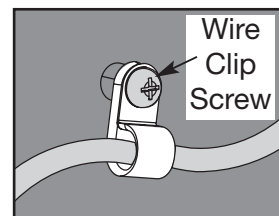

Figure 27
- B. Using a Phillips head screwdriver, loosen the screw on the wire clip and remove the display cable from it. See Figure 27.
B. Using a Phillips head screwdriver, place the display cable in the wire clip and tighten the screw. See Figure 27.